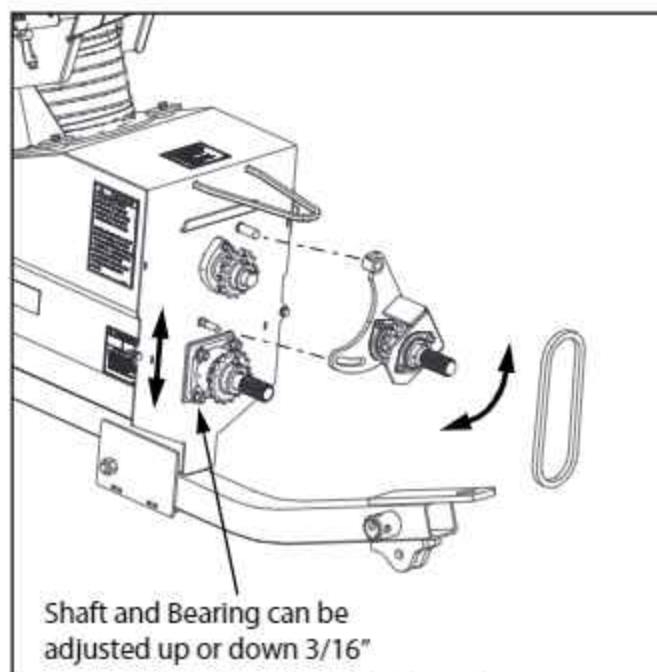

FIG. 5-11. Chain Tension Adjustment
1. The Chain does not have a tension sprocket and therefore any tension adjustment is made by moving the main flighting shaft up or down and by removing or adding links and offset links. The auger shaft can be moved approximately $\frac{3}{16}$ " up and down and an offset link is $\frac{5}{16}$ " long, so a combination of the two will result in correct chain tension. See Fig. 5-11.